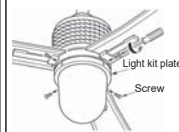

Fig.28
Step 7: Remove the 4 screws from the light kit plate (Do not discard). (Fig 28)